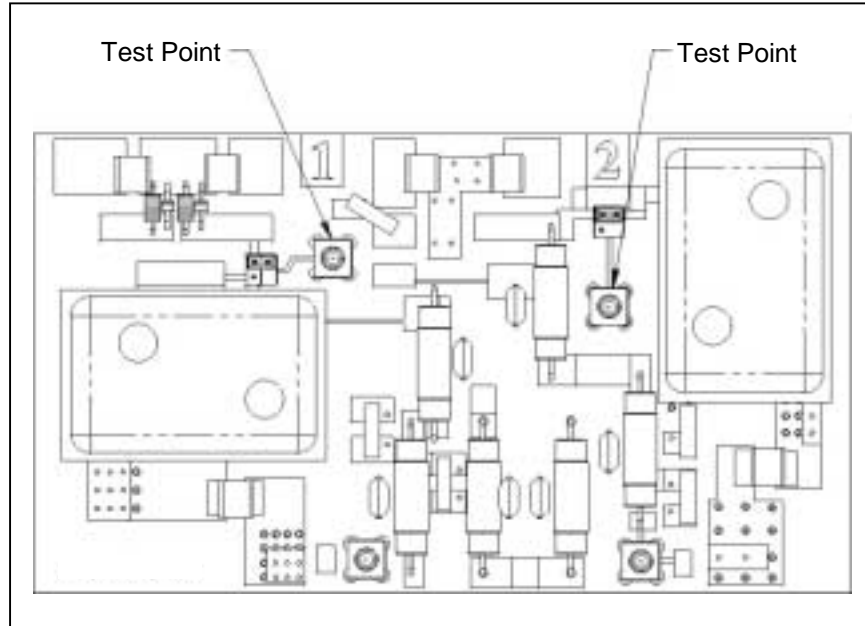

Figure 6: Test points for test cable.
1. Connect the test cable (SMB connector end) to the test point of channel 1 near Preamp 1 (see *Figure 6*).
1. Move the jumper near Preamp 2 to the Tune Mode position and connect the test cable to the test point of channel 2. Refer to *Figure 5* and *Figure 6*.
- Connect the test cable to the test point of channel 3 near the Preamp 3 (refer to *Figure 6*).